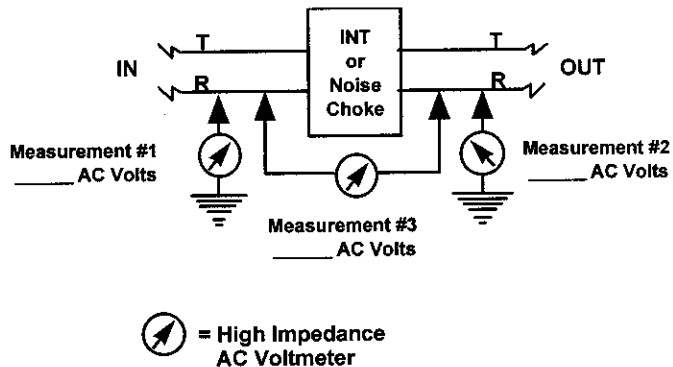

Figure 1: AC Voltage Measurements
- (a) Using a high impedance AC voltmeter, measure and record the AC voltage, tip (T) or ring (R) to ground, on the central office (CO) side of the transformer. See Figure 1, measurement #1.
- (b) Measure and record the AC voltage, T or R to ground, of the same pair on the field or remote side of the transformer. See Figure 1, Measurement #2.
- (c) Measure and record the AC voltage across the transformer, T-IN to T-OUT or R-IN to R-OUT. See Figure 1, measurement #3.
- (a) To insure measurement of AC voltage only, use a high impedance AC voltmeter. Measure and record the AC voltage, tip (T) or ring (R) to ground, on the central office (CO) side of the transformer. See Figure 1, measurement #1.
(b) Measure and record the AC voltage, T or R to ground of the same pair on the field or remote side of the transformer. See Figure 1, Measurement #2.
(c) Measure and record the AC voltage across the Choke or INT, T-IN to T-OUT or R-IN to R-OUT. See Figure 1, measurement #3.